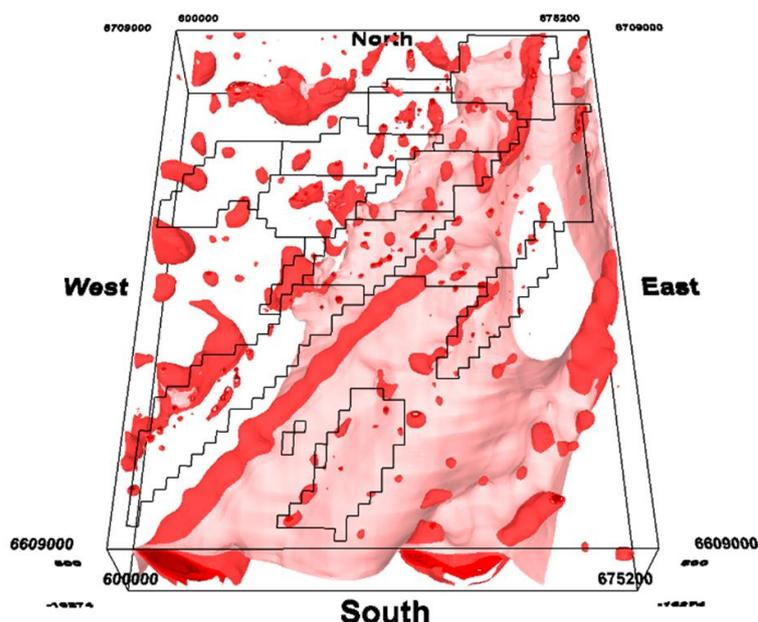

Figure 3: 3D gravity inversion model (Bouguer anomaly >0.04g/cc)
- High-density anomalies with depth extent evident in the 3D gravity inversion modelling (**Figure 3**);